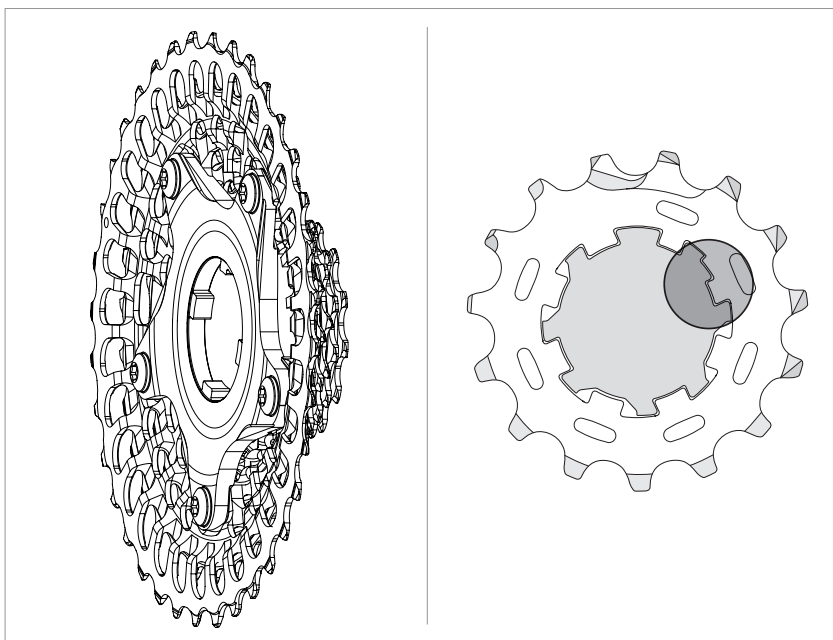

Fig.2
- The profile of the FW body with two asymmetrical splines (Fig. 2) makes sprocket alignment automatic since there's only one way to fit them.